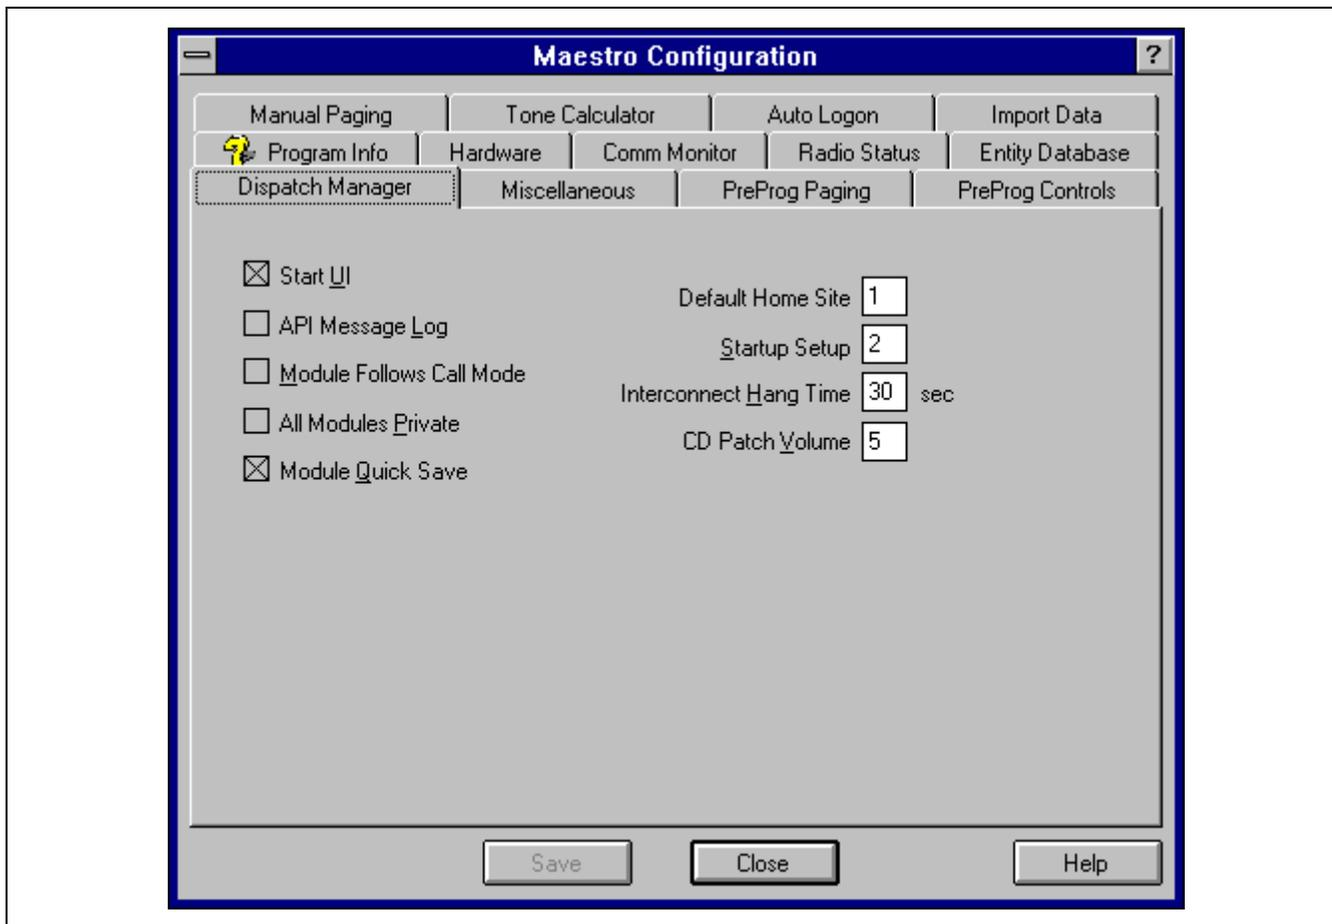

Figure 6-8 — Configuration Editor's Dispatch Manager Dialog Box
- **Dispatch Manager**—This dialog box allows the user to edit many settings which directly affect the Dispatch Manager program (CONSOLE.EXE) such as to automatically start the GUI, the all modules private enable/disable setting, and Call Director (CD) patch volume setting. See Figure 6-8.